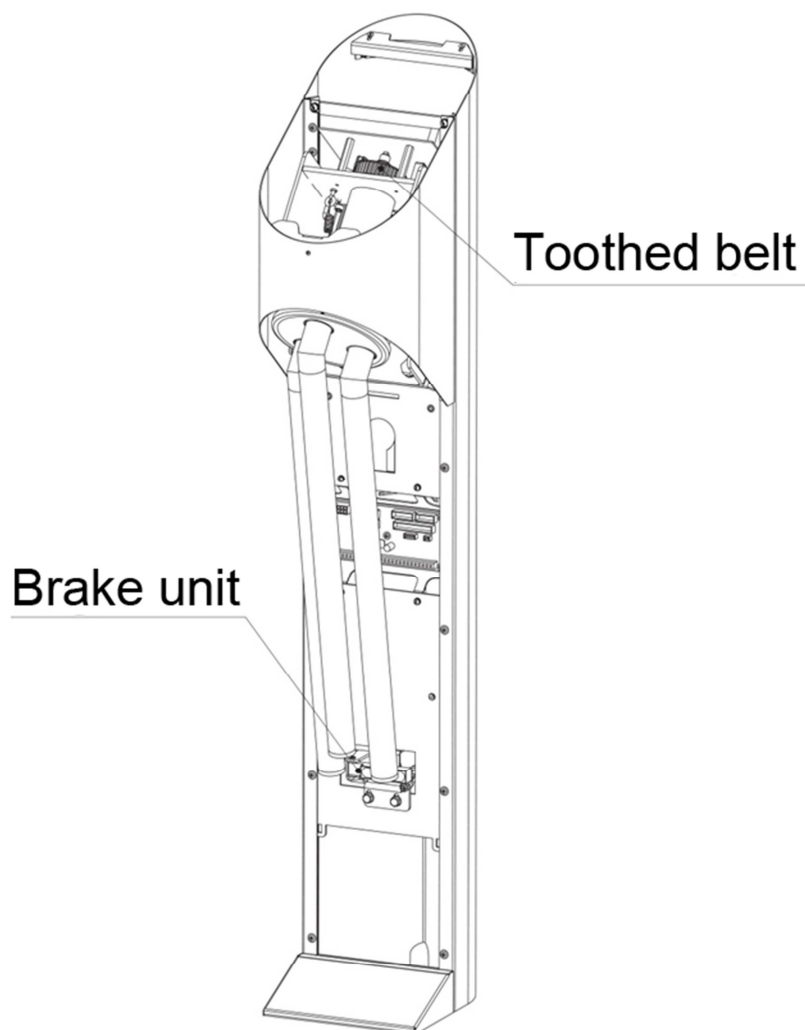

Fig. 10 Central stand of turnstile
- 4.4. Check the condition of the toothed belt and its tension (Fig. 10).
- 4.5. Check the general condition of the rubber plate stopper unit (Fig. 10).